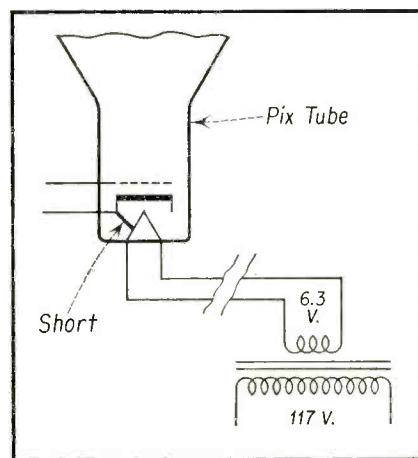

Fig. 2—Use of separate filament transformer enables continued use of shorted picture tube (no DC return).
If the picture tube provides an otherwise normal picture it probably would be desirable to obtain a separate filament transformer, 117 to 6.3 volts, so as to obtain filament voltage for the picture tube only. This will permit the use of the picture tube even though the short still exists between cathode and filament. The internal short in the tube cannot prevent control of the cathode voltage by the background control as with the separate filament transformer there is no return *dc* path from the filament of the picture. See Fig. 2.
Fig. 2—When a signal is applied to the input terminals of a DC scope, both the AC voltage and the DC voltage in the signal appear on the scope screen. The DC voltage is indicated by the distance which the pattern rises above the DC zero-volt level. The DC zero-volt level is indicated by the resting position of the scope trace. DC information on the scope reveals much valuable servicing data.
- A. More information is provided by the *dc* scope, whether or not a demodulator probe is used. Fig. 2 was obtained by application of a crystal demodulator probe and *dc* scope in the signal circuits of an intercarrier receiver.
Fig. 7—This is the same type of display as seen in Fig. 2, but with a high noise level present. It should be recognized that the waveshapes and peak-to-peak signal-voltage data provided in receiver service manuals may be useless in fringe areas. In such case, the technician must rely almost entirely upon his generators for tests of signal circuits.